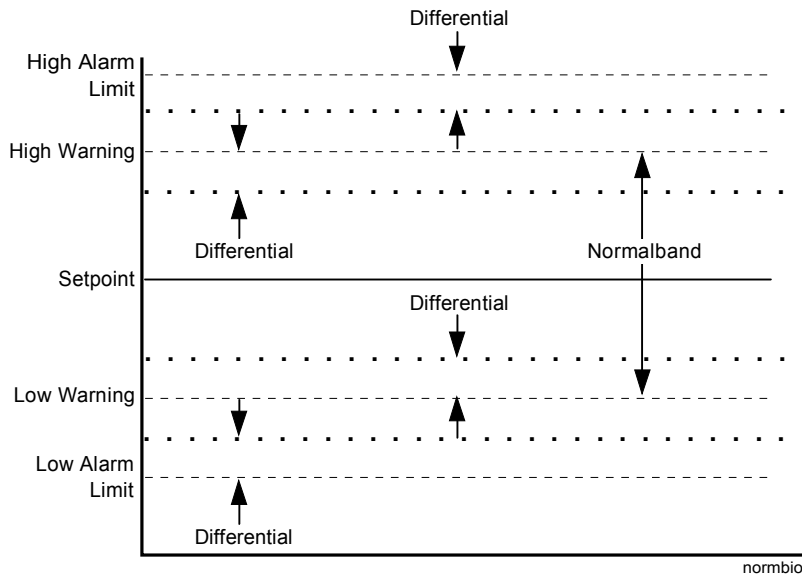

Figure 110: Normalband for AI Object
**Normalband** Optional parameter that is the width of the normal operating range for the object's current value. Normalband is centered on the setpoint (Figure 110), and is used to compute the high and low warning limits. Range: 0.000001 to 99999999 or blank (undefined).